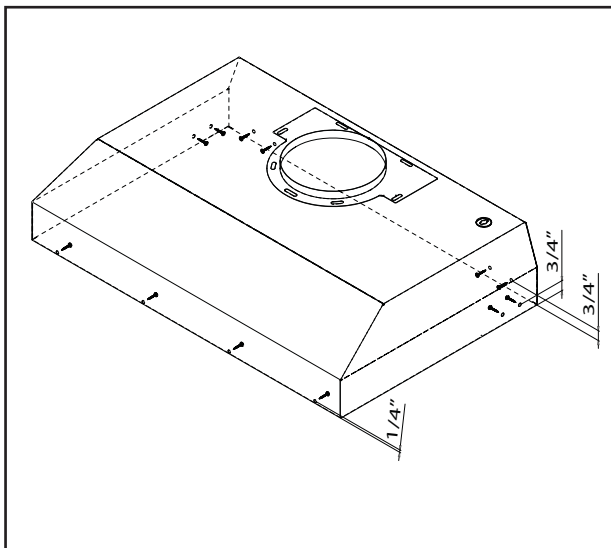

FIG. 3
4. Lift liner into bottom opening of cabinet and secure to interior of cabinet using (12) #8 x 1/2" stainless steel screws; (4) screws in the front and (4) screws in the sides and (4) screws in the back. FIG. 3. **WARNING: Make sure the surface you are securing the liner to is capable of holding the weight of AK91. Failure to do so may cause personal injury or damage to cooking surface or counter.**